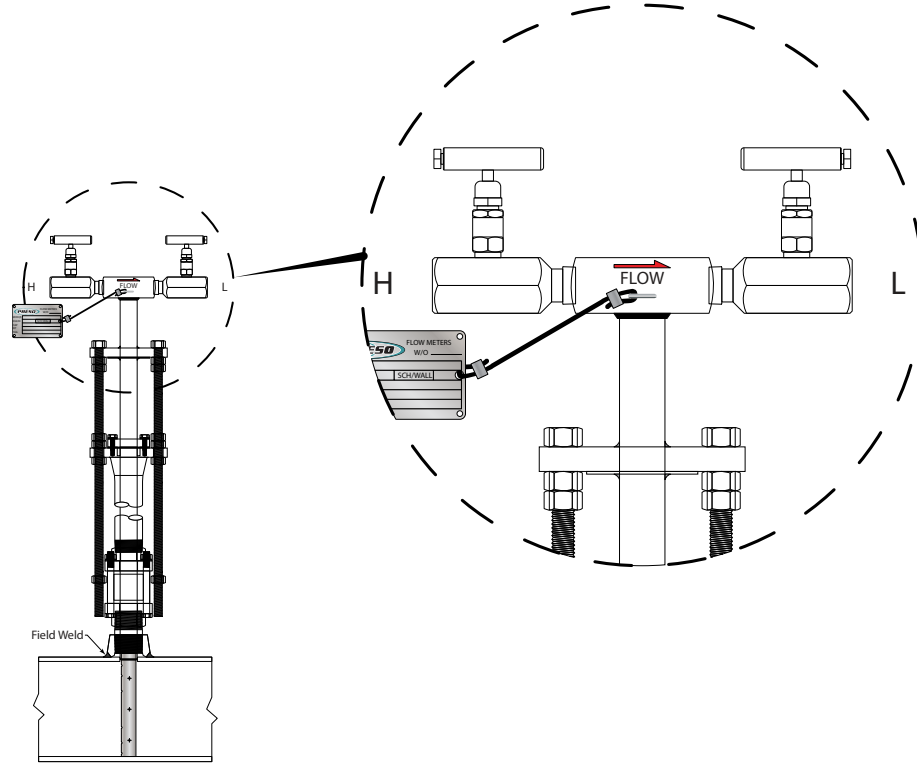

Figure 3: Sensor alignment
4. Align the arrow on the sensor head in the direction of flow as shown in Figure 3.